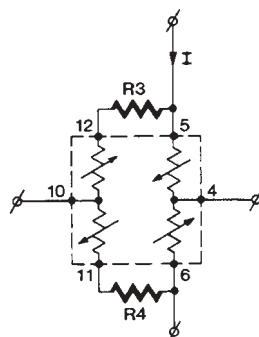
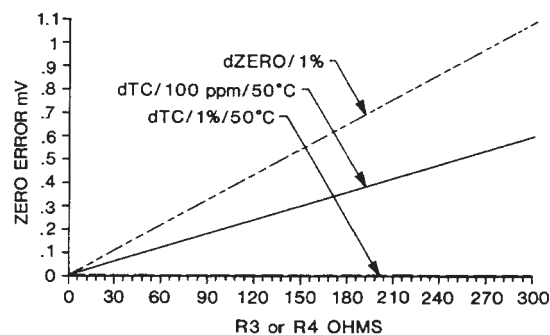

Figure 4. Offset Compensation
Figure 10. R₃ or R₄ Resistor Tolerance
Offset compensation includes resistors R_3 and R_4 (Figure 4). If the offset is positive (+O potential at pin 4 higher than -O potential at pin 10) then insertion of resistor R_4 will bring the offset to zero and resistor R_3 should be shorted. When the offset is negative the reverse is true. These resistors do not change the temperature coefficient of zero in constant current mode (Figure 10).
The effect of resistor R₃ (90) can be estimated from Figure 10. The offset would change 0.33 mV for a 1%
The calculated value of resistor R_S may be either positive or negative. The polarity of this value is utilized to define the position of the resistor. As was discussed before, balancing of offset can be realized by R₃ or R₄ resistor (Figure 4). The truth table for these resistors is as follows: